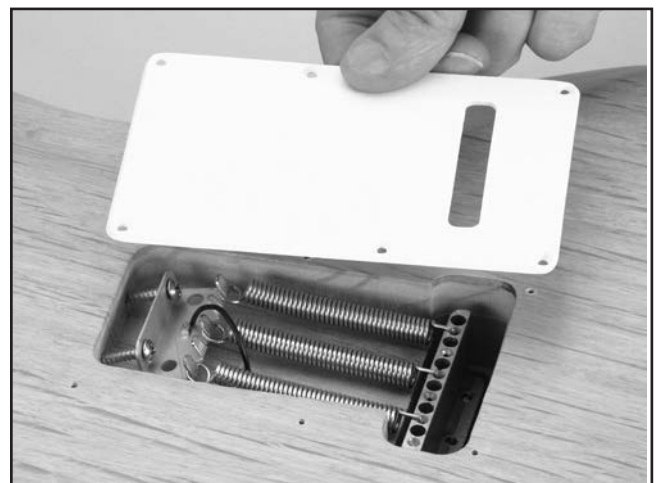

Figure 26. Mounting the back plate.
1. Turn the guitar face down, position the back plate over the cavity in the back of the guitar body as shown in **Figure 26**, making sure the back plate hole is centered over the tremolo block holes.